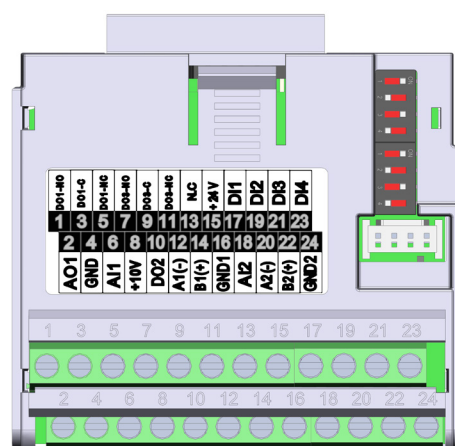

Figure 19.4: Plug-in module CFW500-CRS485
The CFW500-CRS485 plug-in module has Serial (1) interface through RS-485 port at terminals 12 (A-) and 14 (B+), as well as the Serial (2) interface through another RS-485 port at terminals 20 (A2+) and 22 (B2+), see Figure 19.4 on page 19-1. See also, GND1 on terminal 16 and GND2 on terminal 24 are isolated each other and from GND on terminal 16.